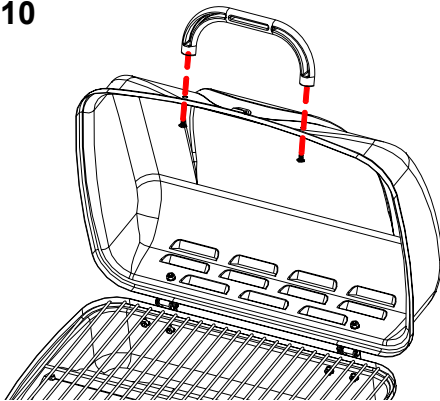

Fig. 10
*Locate:* Grill Lid Handle, (2) M5x10 bolts
*Procedure:* Attach the Grill Lid Handle to the Lid using (2) M5x10 bolts as shown in Fig. 10.